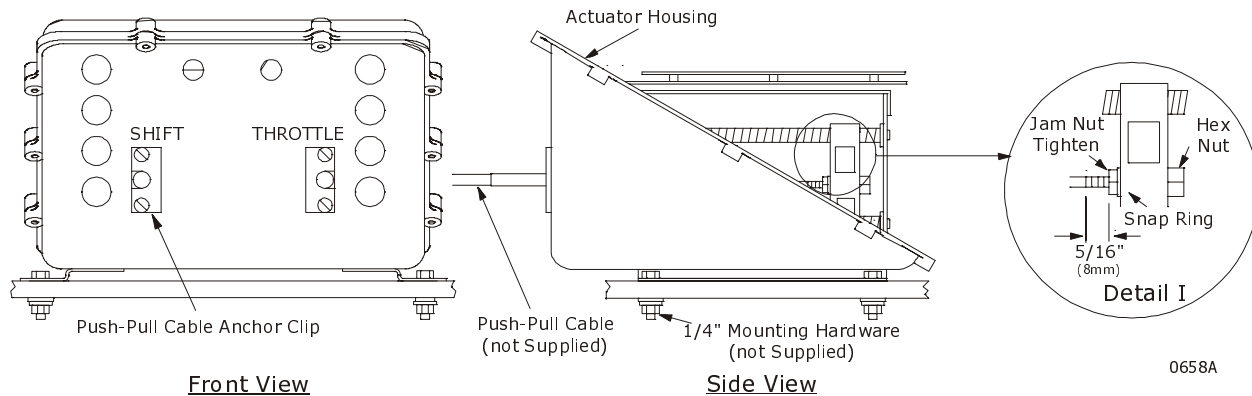

Figure 14: Actuator Push-Pull Cable Connections
Refer to Figure 14:.
- E) Connect the push-pull cables to the hex nuts (See Figure 14:; Detail I). Use a 7/16 inch socket to turn the hex nut onto the cable rod end until there is approximately 5/16 inch (7,9mm) of thread showing beyond the jam nut.